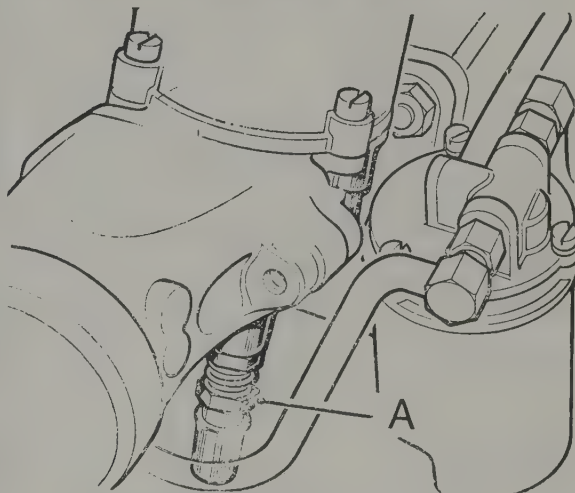

Fig. 3.24. Mixture adjustment nut (A)
- 10 See Fig.3.24 for mixture adjustment. Screw the nut IN to weaken and/or OUT to enrich.